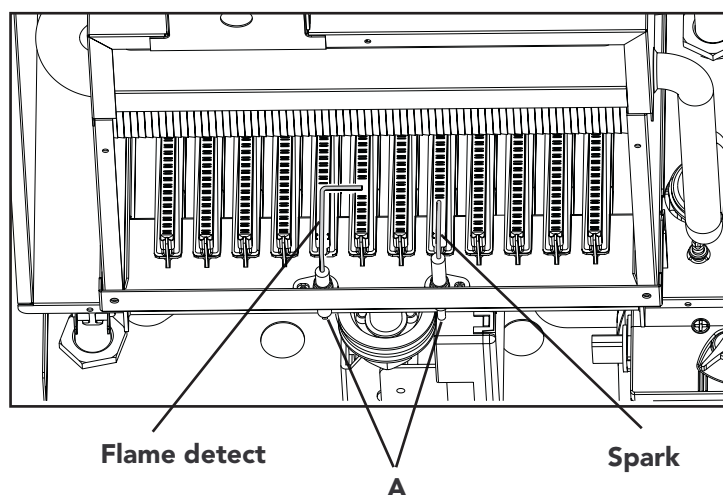

Fig. 24
Spark or flame detect electrode (fig. 24)
- Identify electrode from fig. 24